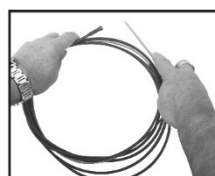

Fig. 64
4. Select the correct new liner and carefully unravel, avoiding putting any kinks in the liner, if you kink the liner it will make it no good and will require replacement (Fig. 64).